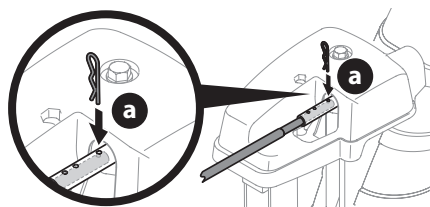

Figure 63
1. Remove cotter pin (a) from either of the holes furthest from the chute assembly on chute control head (Figure 63).
2. Push in chute control rod until the hole in it lines up with the third hole in chute control head (Figure 63).
3. Reinsert cotter pin (a) through this hole and chute control rod (Figure 63).